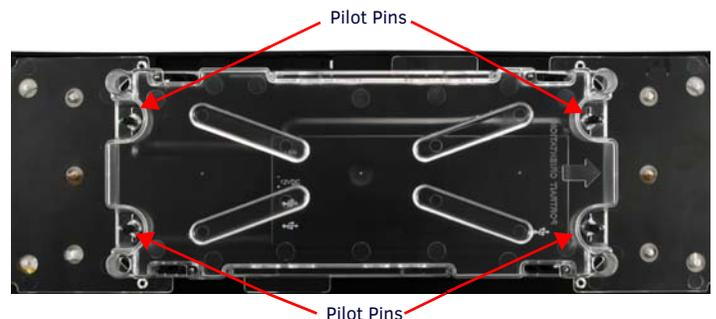

FIG. 5 INSERT PILOT PINS INTO MARKED LOCATIONS
8. Use the 4 pilot pins on the panel as guides to mount the touch panel onto the back box (FIG. 5). Ensure the pilot pins are secured firmly in place.